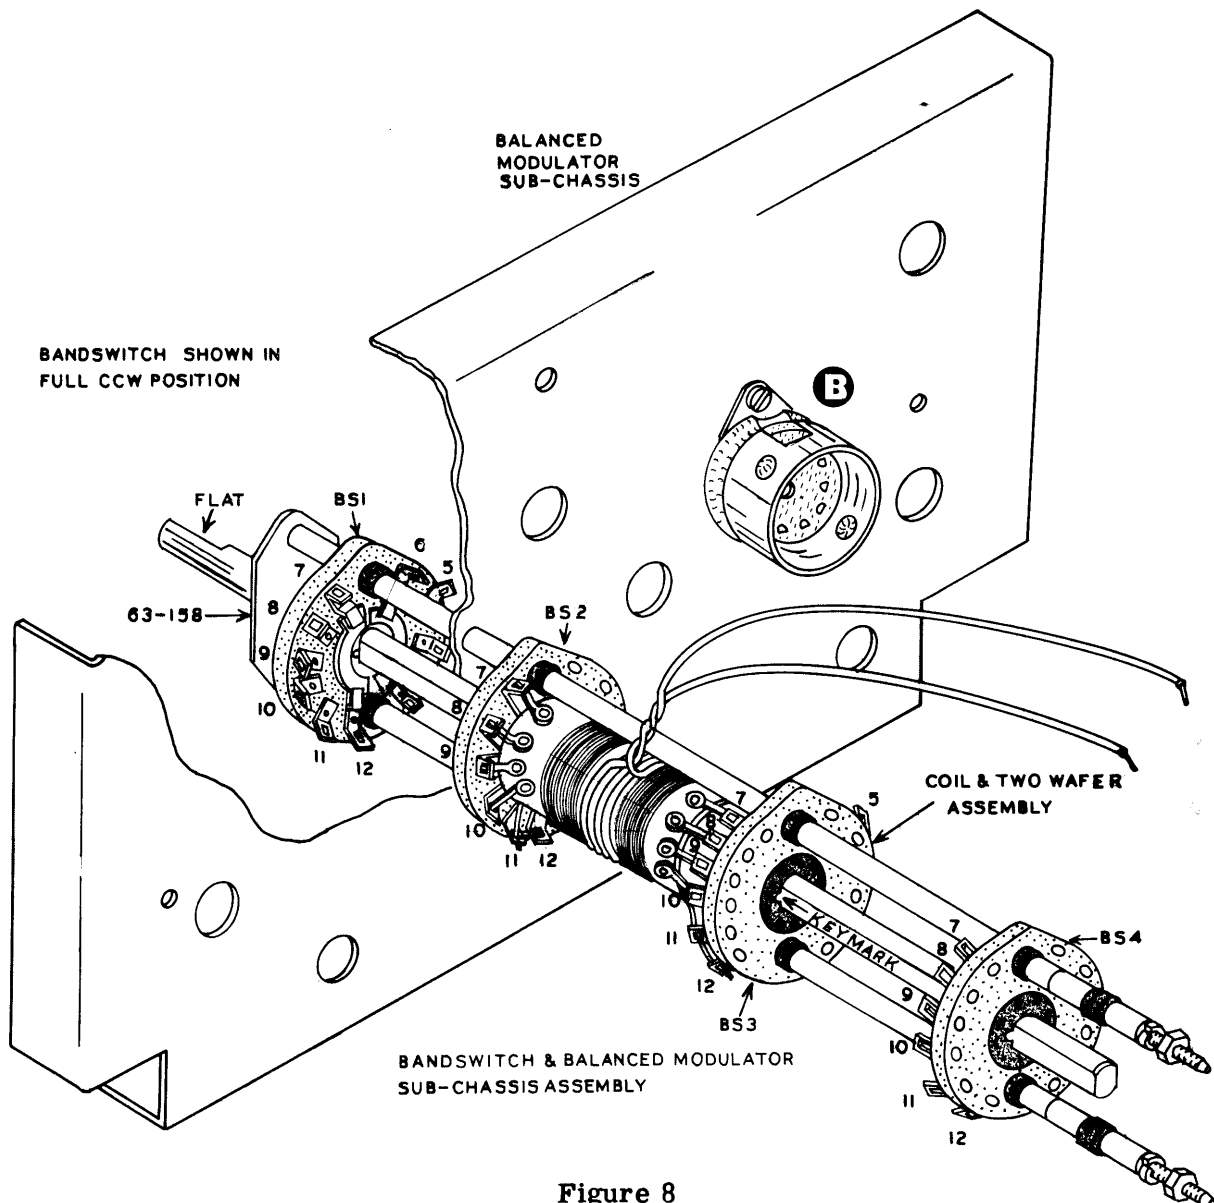

Figure 8
CAUTION: Carefully inspect the bandswitch 63-158 and note the position of the key marks on the wafer rotors. Both should be on the same side of the switch shaft. If not, during disassembly, remove the front deck and replace with the key mark in line with the rear deck key mark. Check the detailed bandswitch drawing in Figure 8 which shows the switch in full CCW position. Note the proper relation between the shaft flat and the wafer key marks and contact arrangement.
- (✓) Disassemble band switch 63-158 and reassemble to the sub-chassis as shown in Figure 8. Insert the coil and two wafer assembly on the band switch as shown placing the wafer with lugs at BS3-2 and BS3-5 toward the rear. During reassembly, use care to observe proper orientation of the wafers and index plate per the detailed drawing. Make sure a fiber washer is placed between the ceramic wafer and the metal spacer.